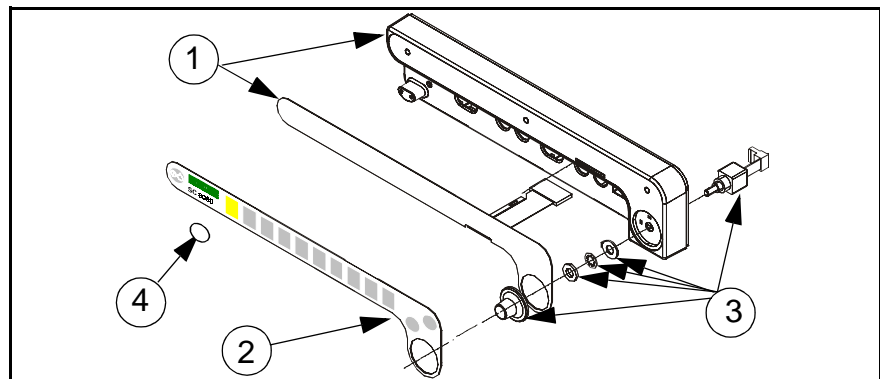

Figure 3-3 Front Bezel Subassembly (incl. Membrane Keypad) ① w/ Language Label ②, Optical Encoder Subassembly ③, and R393 Access Port Cover ④
Note: Install new R393 Access Port Cover if Front Bezel Subassembly has been replaced. See ④ in Figure 3-3 on page 37.